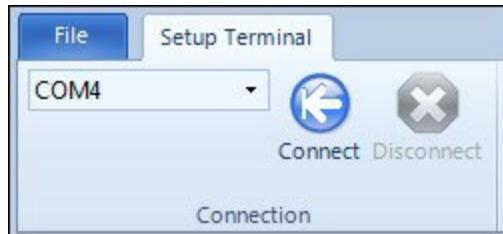

Figure 7: Tool Suite Connect button
5. In the top left of the window, click the drop-downlist and select the Comport on the computer to which the radio is connected. Figure7